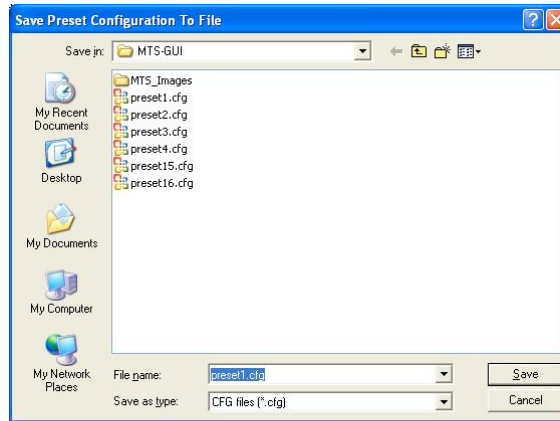

Figure 6-30: Save Preset to File Menu
- The “Store to File” process creates a “Preset #”.cfg file that is (by default) stored in the MTS folder in program files (see Figure 6-30 below). The save to file option allows the user to do the following...